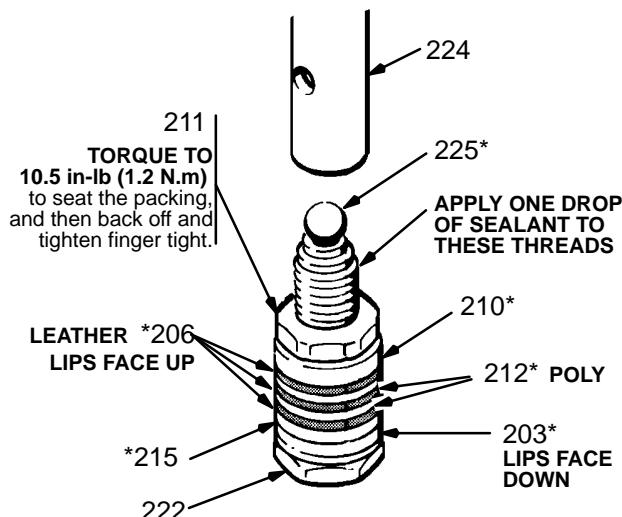

Fig 35-1
7. Clamp the flats of the piston rod in a vise. Loosen the retaining nut (211). Unscrew the piston valve (222) from the rod. Remove all parts from the piston valve (222). Refer to Fig 35-1.
NOTE: Alternate leather and plastic packings as shown in Fig 35-1. The lips of the throat "V" packings must face down, against pressure. The lips of the piston "V" packings must face up, against pressure. The lips of the U-cup seal (3) face down. Incorrect installation damages the packings and results in pump leaking.
1. Check the outside of the piston rod (224) and the inside of the sleeve (218) for scoring or scratches. If these parts are damaged, new packings will not seal properly. Replace these parts if needed.
2. Stack the backup washer (214), seal (203*), female gland (215*), alternate the packings (212*, 206*), and then male gland (210*) onto the piston valve (222). Refer to Fig 35-1.
4. Place the ball (225) on the piston valve (222). Refer to Fig 35-1.
5. Apply one drop of adhesive, supplied, to the threads of the piston valve. Then hand tighten the valve assembly into the piston rod just until the nut (211) contacts the rod. Refer to Fig 35-1.